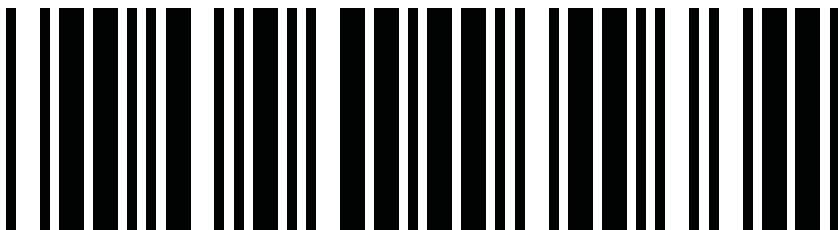

Figure 9-16. Barcode – 20MM
22. Scan the 20MM barcode, shown in figure 9-16, with the Bluetooth scanner to set the production quantity application for weighing the 20 mm bolts.